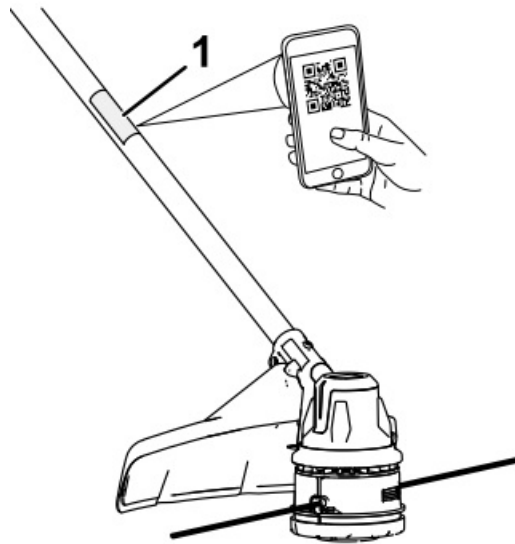

Figure 1
- Figure 1 identifies the location of the model and serial numbers on the product. Write the numbers in the space provided.